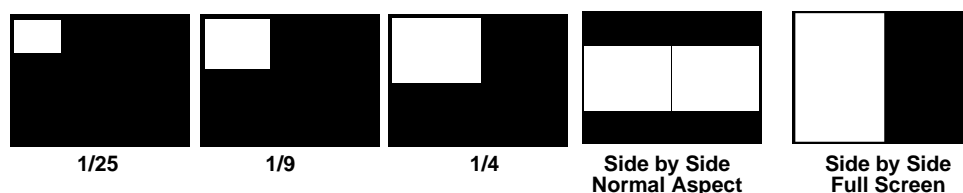

Figure 15. PIP Window Sizes
- Figure 15 shows the window size options available using the menu system (see “PIP Mode selection box” on page 32).